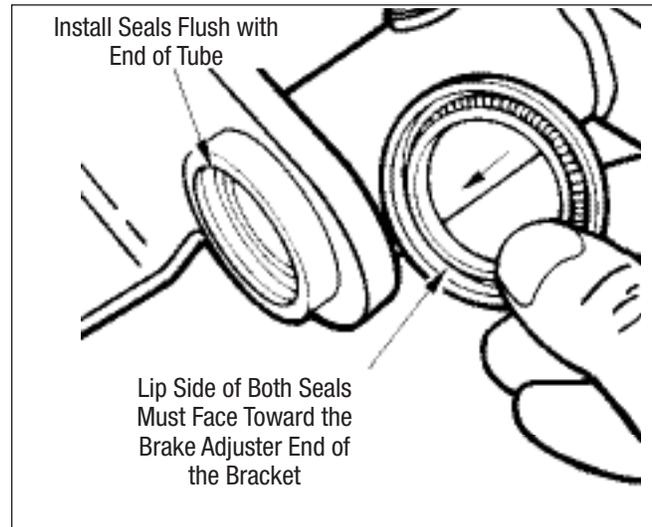

Figure 8 - Camshaft Bushing Installation
5. Install new grease seals with a suitable piloted driver so that the seals are flush with the end of the air chamber bracket tube. Refer to **Figure 8**.